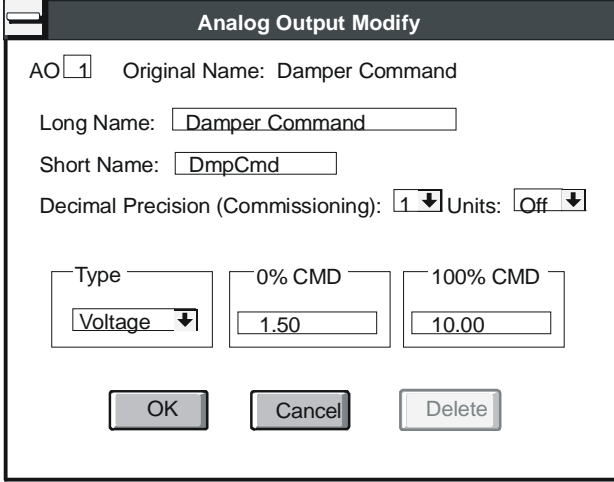

Figure 8-2: ASC Analog Outputs Dialog Box
1. Double-click on a point. The Analog Output Modify screen appears (Figure 8-2).